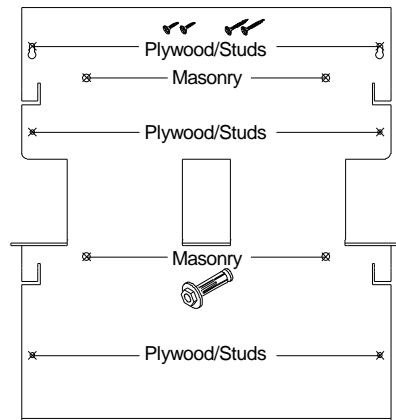

Figure 1 The Speedway Mounting Template
Mounting the Speedway Base Assembly on Plywood or Drywall Backed with Studs on 16" Centers (See Figure 1)
1. Using the full-sized template (see also Figure 1) mark the location of the four holes marked Masonry at the required height.